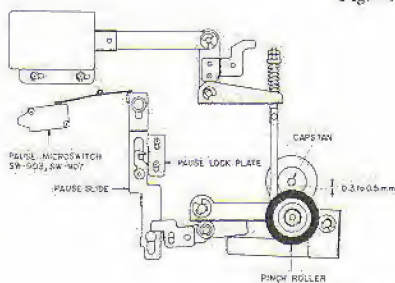

Fig. 5
8. PAUSE ADJUSTMENT (Refer to Fig. 5)